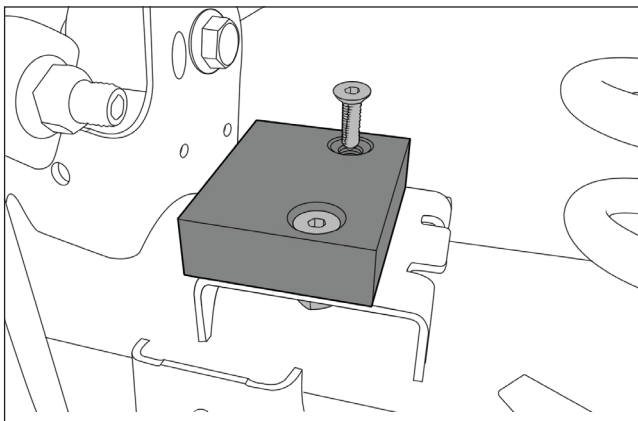

Figure 6
3. Install new Bump Stop Spacers on axle as shown using the supplied hardware (fig. 6).